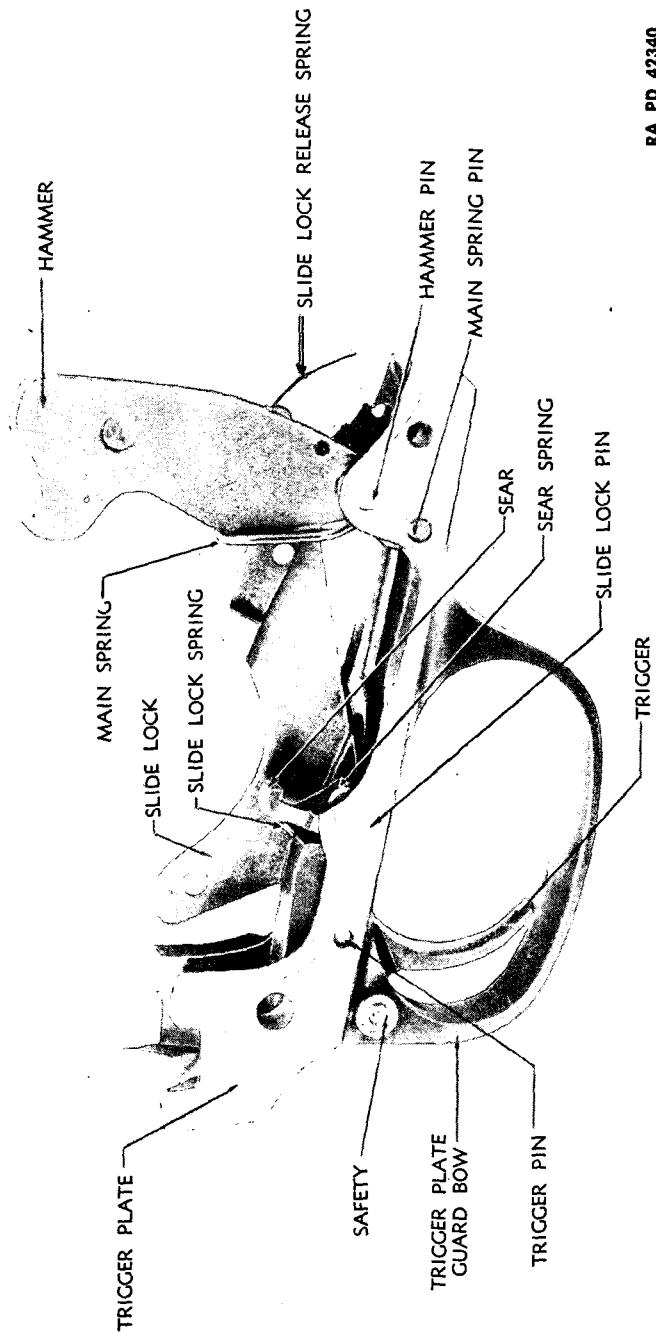

Figure 39—Trigger Plate Group—Right Side View—Showing Location of Parts—Stevens Shotgun M620A
(8) The trigger plate group (fig. 39) contains the hammer, trigger, sear, slide lock, and safety, together with their springs and component parts.
NOTE: The trigger plates of the M520 and M620 Guns have an integral tang extending to the rear, while in the M620A Gun, the tang is floating as already described, and mates with both receiver and trigger plate when assembled. The principal differences in the trigger plate groups of the M620A (fig. 39), M520 and M620 Guns are as follows:
(9) The slide lock, pivoted in the trigger plate, engages with the slide to block its rearward movement after it has locked the sliding breech in position, thereby preventing premature unlocking of the sliding breech. The lock is disengaged from the slide either by the action of the slide lock release spring, functioned by the descending hammer with which it is engaged, or by manual pressure upward on the rear end of the slide lock through the medium of the slide lock release, which extends downward through the floor of the trigger plate to the left of the trigger.
(10) The safety (fig. 39) of the M620A and M620 Guns operates laterally in the rear end of the trigger plate guard bow to block and free the trigger, thus preventing or allowing its pulling to fire the gun. In the M520 Gun, the safety thumbpiece which acts upon the safety lever, positioned as described above, operates longitudinally to accomplish the same results.